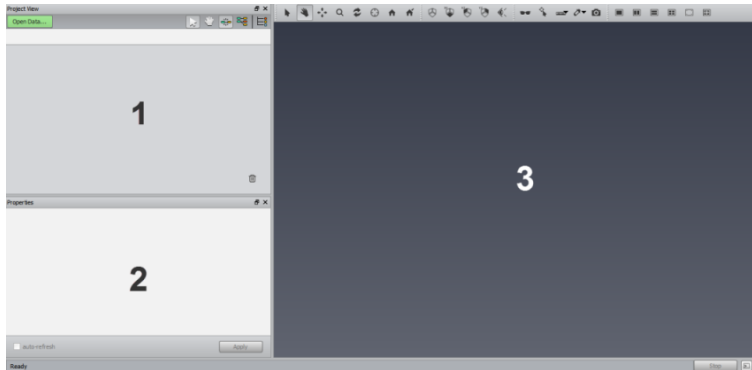

Figure 11.59: Avizo user interface
Avizo user interface is divided into three major regions: The Project View (1) contains folders where data and modules will appear. The Properties area (2) displays interface elements (ports) associated with Avizo objects. The 3D viewer window (3) displays visualization results (see Figure 11.59).